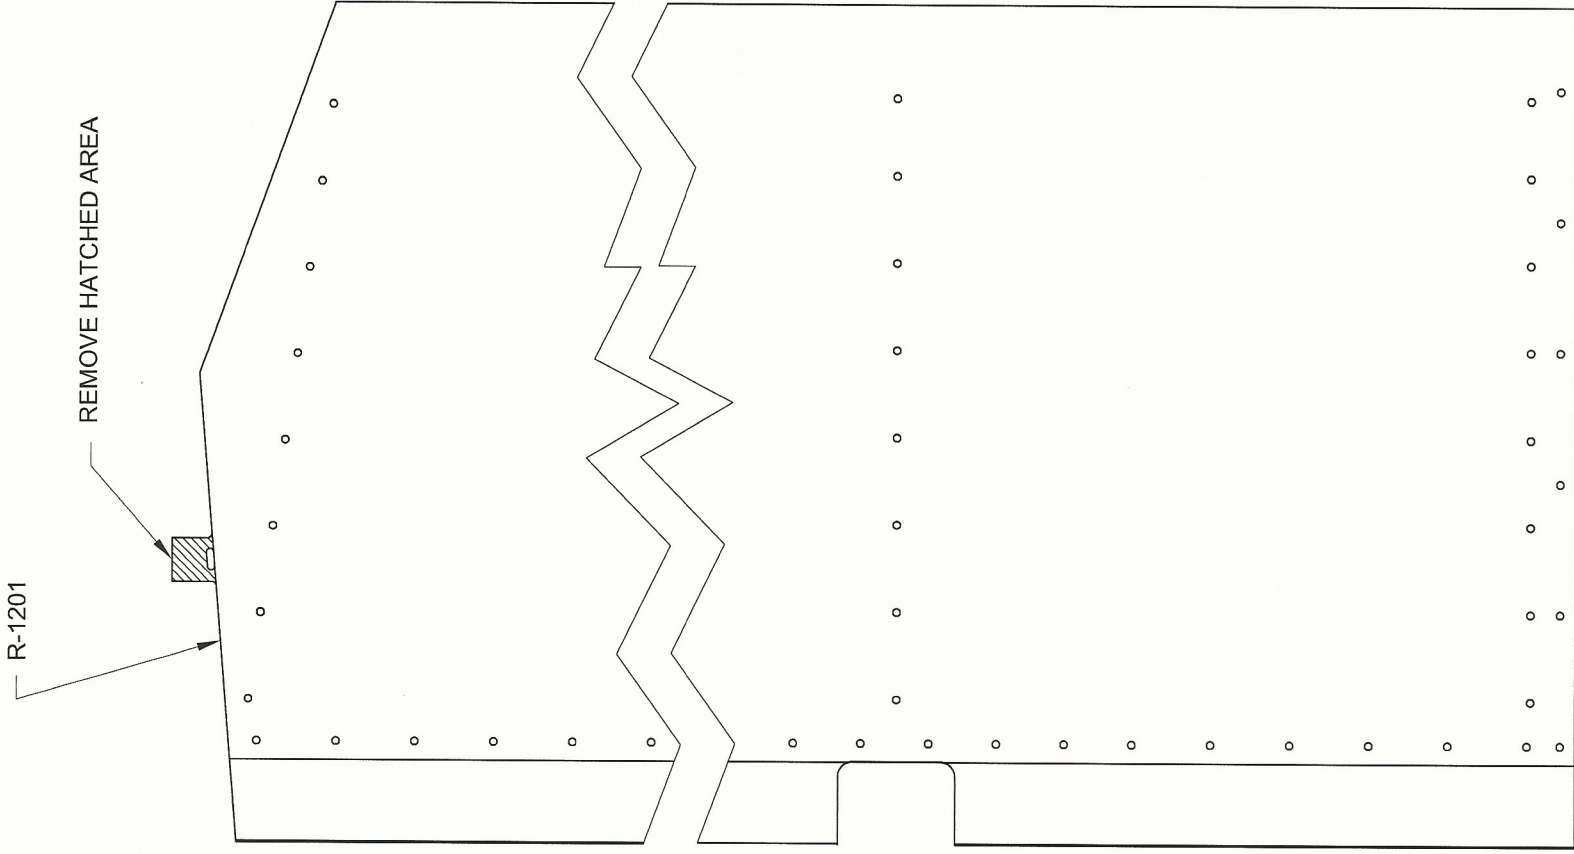

FIGURE 1:
Step 1: Remove the material shown hatched from the lower end of the R-1201 Main Skin shown in Figure 1.